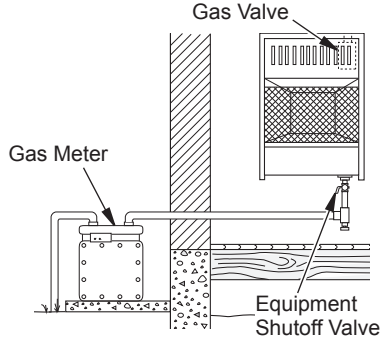
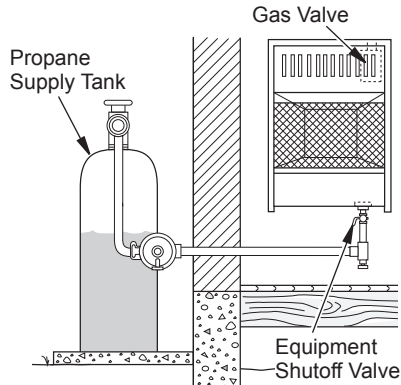

Figure 18 - Natural Gas Supply
Figure 19 - Propane Fuel Supply
3. Check all joints from gas meter (natural gas installations, see Figure 18) or from propane tank (propane gas installations, see Figure 19) to equipment shutoff valve. Apply a noncorrosive leak detection fluid to all joints. If bubbles form, there is a leak.
4. Check all joints from equipment shutoff valve to control valve (see Figure 18 or 19). Apply a noncorrosive leak detection fluid to all joints. Bubbles forming show a leak.